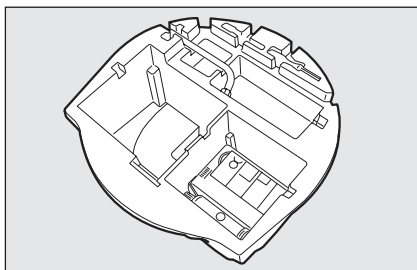

fig. 4
- ☐ Take out the tool container **fig. 4**;